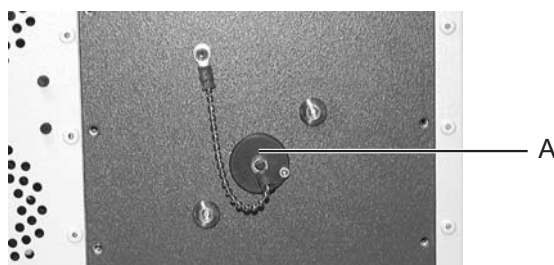

Figure 35: Beam shutter on laser device
3. Open the beam shutter (Figure 35, A) by turning the beam dump counter-clockwise and removing it from the beam exit aperture.